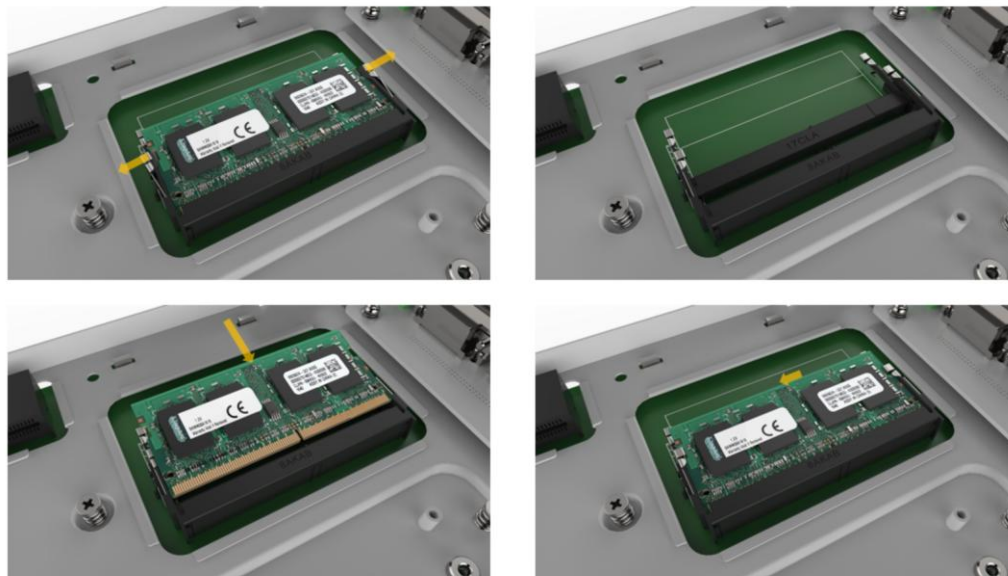

Figure 3-6: Memory Installation
Step 3: Once aligned, press down until the memory module is properly seated and the two handles fully clip into place **(See Figure 3-6)**